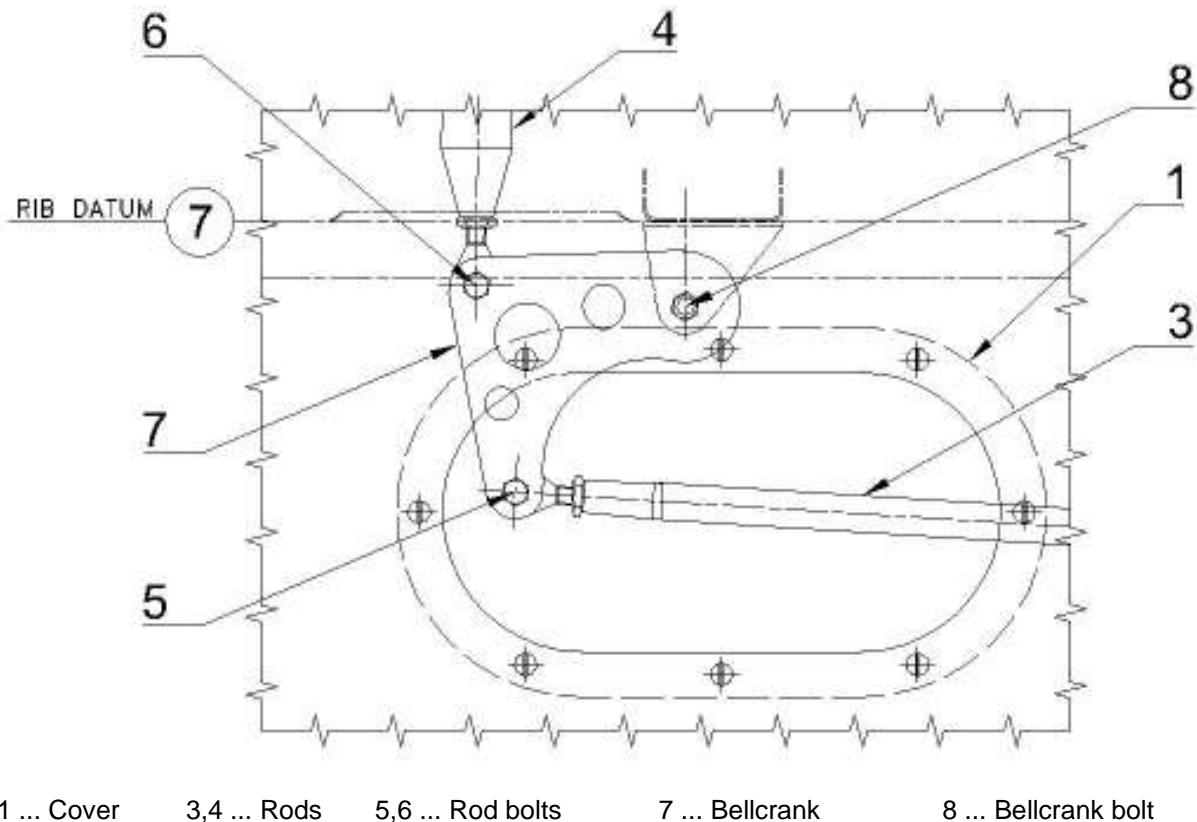

Fig. 6-10: Bellcrank of aileron control
Disassembly is identical for the left and the right wing (see Fig. 6-10).
- (b) Set the bellcrank (7) to the position (see Fig. 6-10), insert the bolt (8) to the hole in the bellcrank and brackets and secure it with self locking nut.
- (c) According to the Fig.6-10 connect push rods (3) and (4) to the bellcrank.